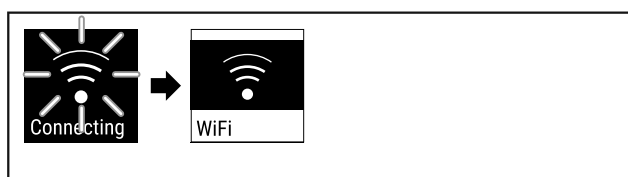

Fig. 75
- Connection is established (see Fig. 75).